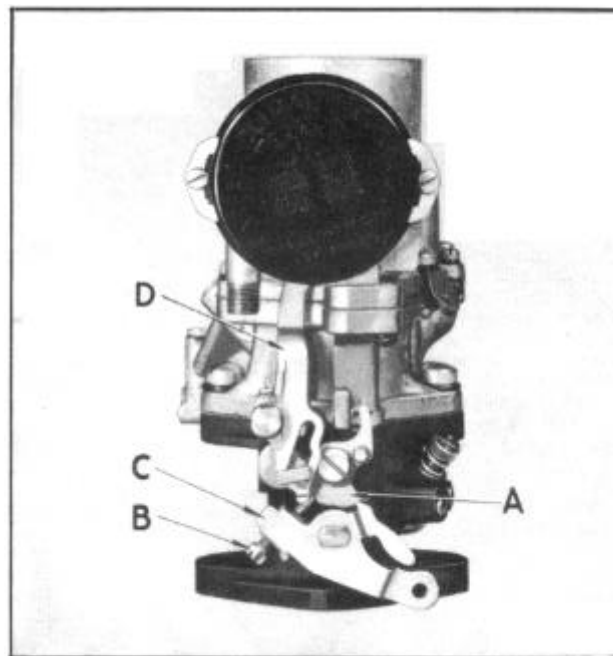

Figure 16--Fast Idle Adjustment
1. With fast idle cam (A), Figure 16, held in normal position, tighten throttle lever adjusting screw (B) until it just seats against cam.
2. Hold throttle lever (C) closed and pull cam (A) back until first (or lower) step on cam is against (not on) set screw.
4. Adjustment can be made by bending at the off set of the fast idle link (D).